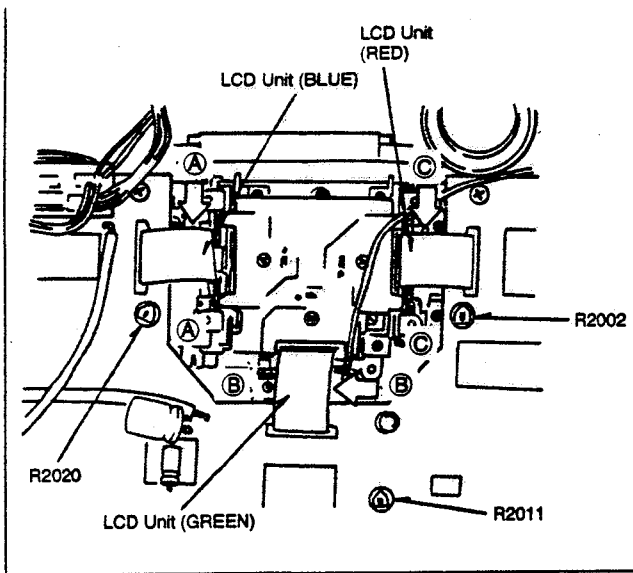

Fig. 8
3. Insert the black paper to ① and ② so that no light comes from any object other than LCD Unit (Green). (See Fig. 8)
8. Insert the black paper to ① and ② so that no light comes from any object other than LCD Unit (Red). (See Fig. 8)
13. Insert the black paper between ③ and ④ so that no light comes from any object other than LCD Unit (Blue). (See Fig. 8)